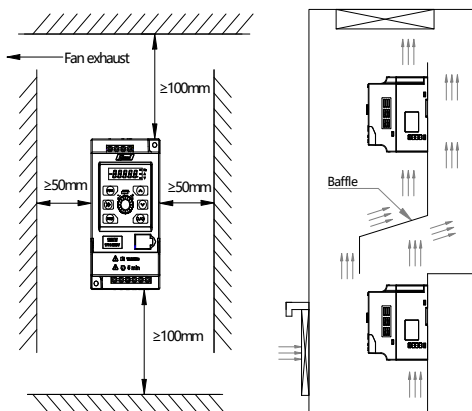

Figure 2-1 Installation Gap Diagram Figure 2-2 Installation Diagram of Multiple Drives
- (1) Generally, vertical installation shall be adopted.
- (2) Minimum installation gaps and distances are shown in Figure 2-1.